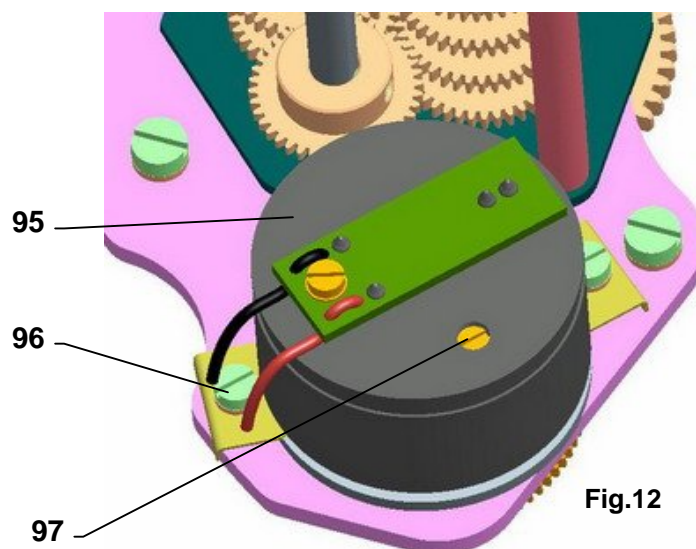

Fig.12
4.7 Adjustment of Capacitive Transmitter CPT1/A (Fig.12)
The trimmer (97)(Fig. 12)) can be used to adjust the output signal of the capacitive transmitter to any value of operating revolutions in range from ca 50% up to 100% of the max. value of the operating revolutions on the competent degree according to table Nr.3.